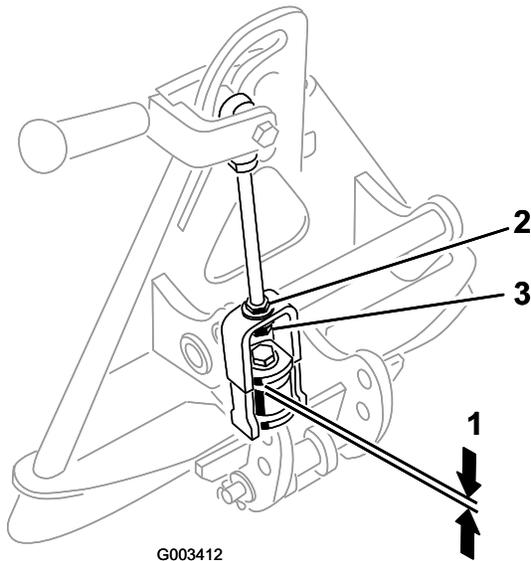

Figure 13
9. With the rake mounted and secured on the traction unit, measure the gap between the top washer and the spacer in the link assembly on the attachment adapter as shown in Figure 13.
The gap between the washer and the shoulder should be 0.060 to 0.080 inch (Figure 13).
10. If the gap is not correct, loosen the jam nut and tighten or loosen the adjustment nut on the link assembly as needed to change the gap (Figure 13).